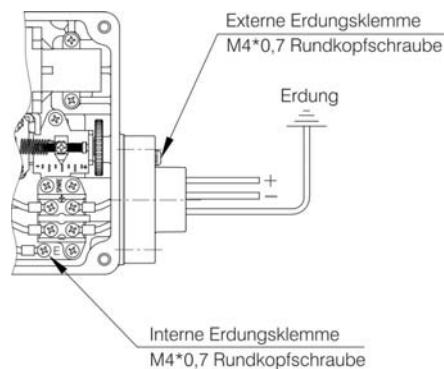

Figure 11
3. Close the cover. See figure 11
For earthing connections see figure 11.
3. After completing the adjustment tighten the set screw. Figure 11